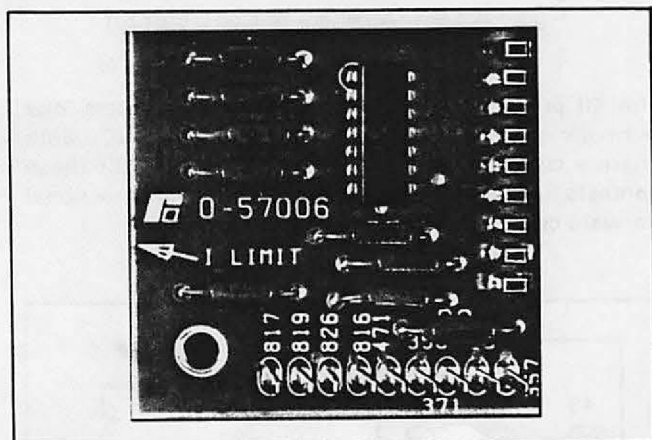

Figure 5.21 — Test Meter Adapter
**5.11 Test Meter Adapter** — Measuring and monitoring of FlexPak Plus regulator voltages can be safely and conveniently carried out with the optional Test Meter Adapter Kit. (Refer to Figure 5.21.) It acts as an interface between the Regulator Module and a user's voltmeter.